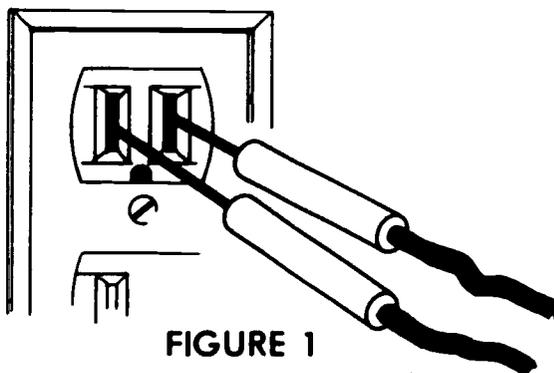

FIGURE 1
- D. Check across grounded and ungrounded slots of 125 volt duplex grounding receptacle (Figure 1)